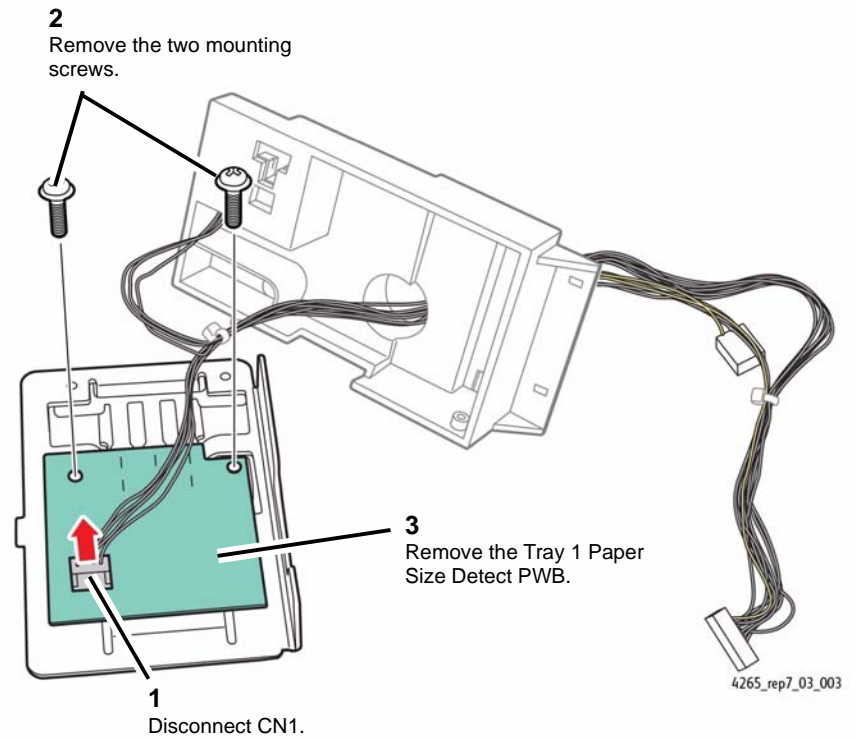

Figure 3 Removing the Tray Paper Size Detect PWB
6. Remove the Tray Paper Size Detect PWB from the bracket (Figure 3).